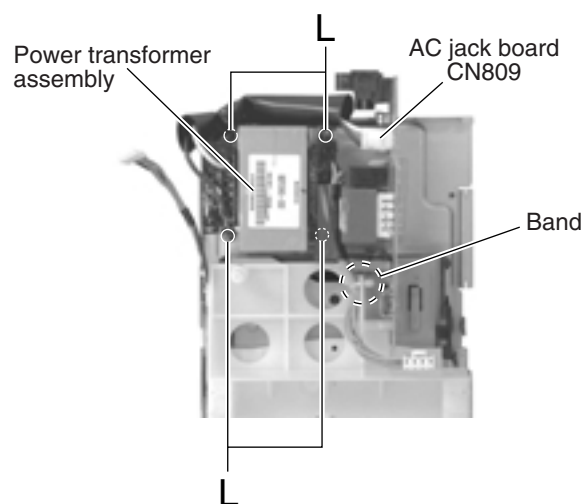

Fig.20
■ Removing the power transformer assembly (See Fig.20)